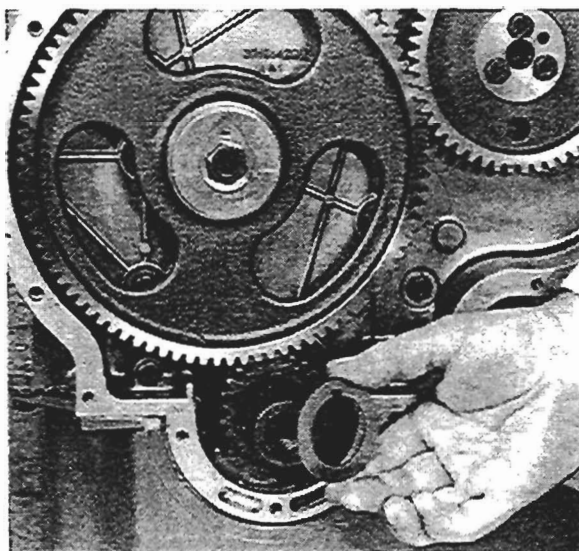

Fig. K13
10. Where necessary, fit crankshaft pulley distance piece or oil thrower (see fig. K13).